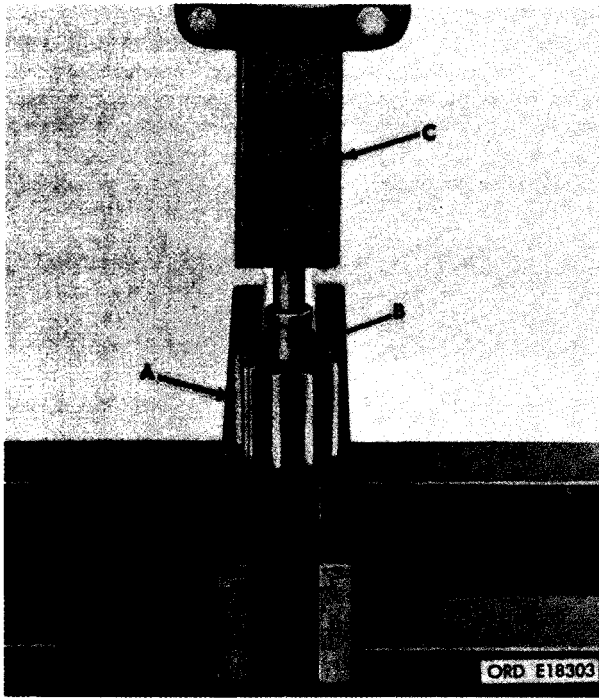

FIGURE 375. REPLACING PRESSURE OIL OR SCAVENGER OIL PUMP DRIVEN IMPELLER BUSHING-TYPE BEARINGS.
(d) Figure 375. (A) Position the pressure oil pump or the scavenger oil pump driven impeller on press plates as shown. Allow enough clearance for the two old bushing-type bearings to clear press plates as they are pressed out of impeller. (B) Position a new bushing-type bearing against, and in alignment with, old bushing-type bearing in driven impeller. (C) Using a suitable pressing arbor, press one new